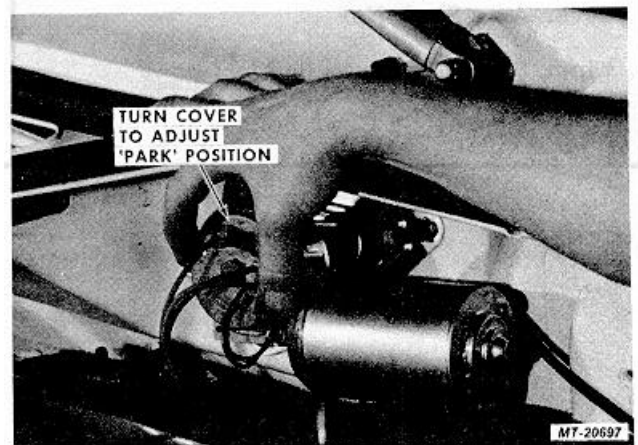

Fig. 8 Adjusting Wiper Blade Park Position
2. If adjustment is required, loosen motor cover mounting screws and turn cover clockwise or counterclockwise as required to set correct "park" position (Fig. 8). Retighten cover screws. (Length of stroke is fixed and cannot be changed.)